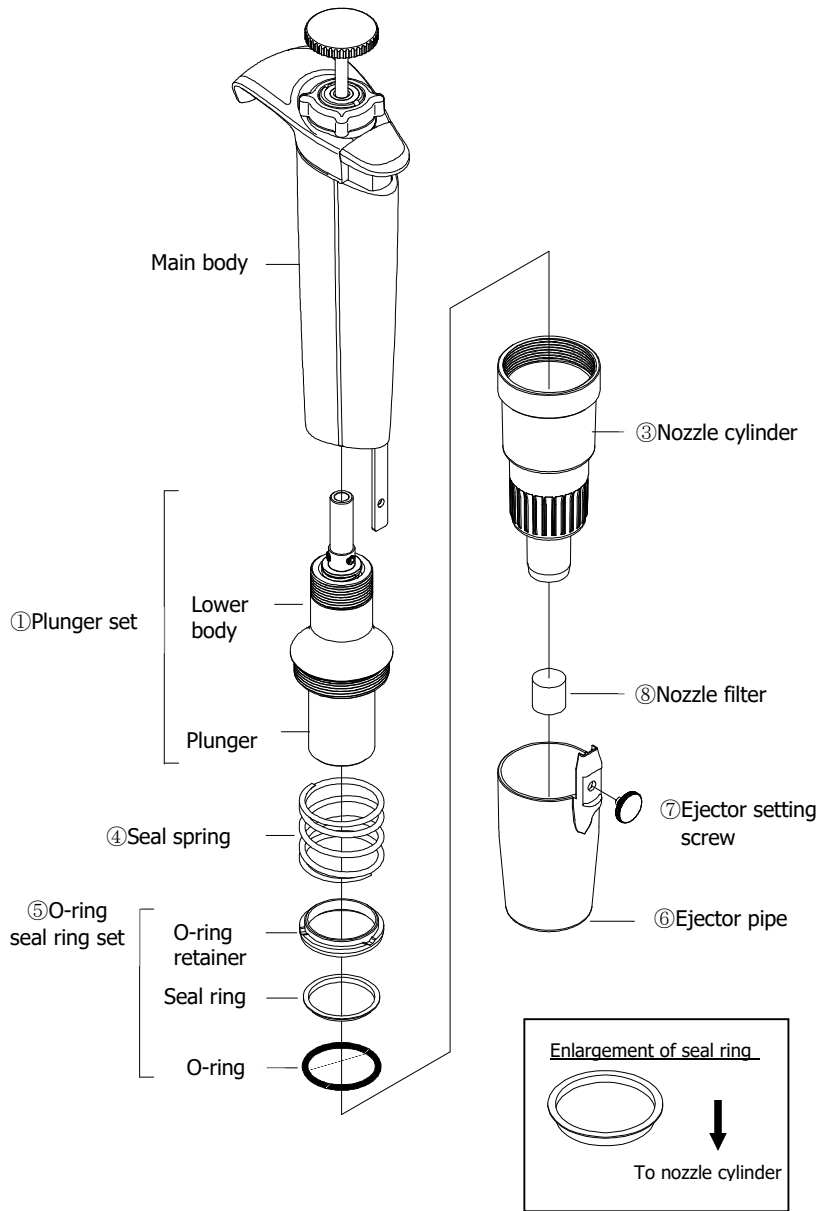

Fig. G4
- For Models: 5000 μ L: (Fig. G4) and 10000 μ L (Fig. G5), remove the seal spring, O-ring retainer, O-ring and seal ring in the nozzle cylinder.
- For Models: 5000 μ L (Fig. G4) and 10000 μ L (Fig. G5)
Circled Numbers in (Fig. G4) corresponds to Parts Numbers in the replacement parts list.